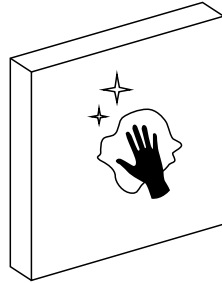

Fig. 113
- 1 Clean the surface to which the keypad is to be attached (Fig. 113).